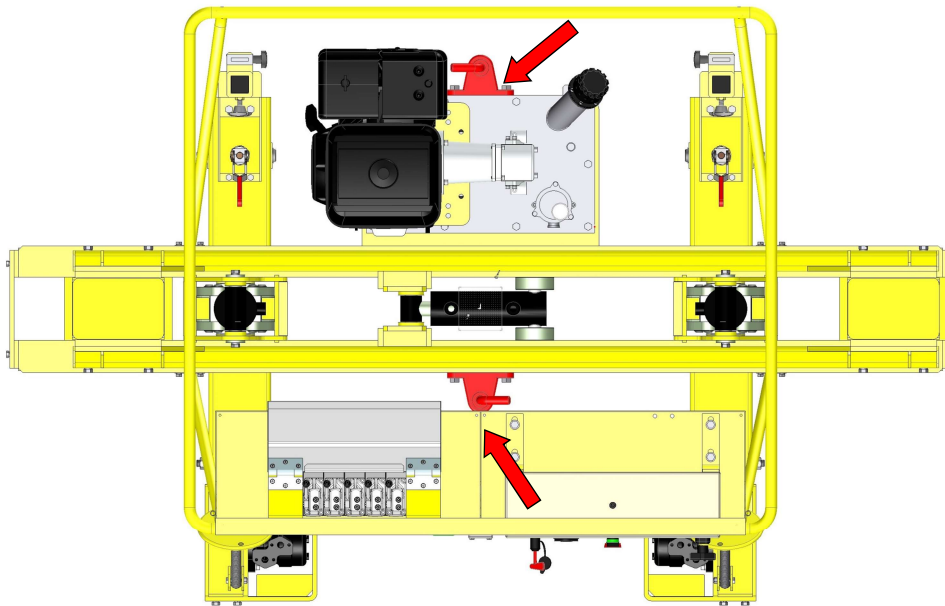

Figure 8
- Two towing shackles (Figure 8) are used to hitch the LNR to a traction engine, using a drawbar.